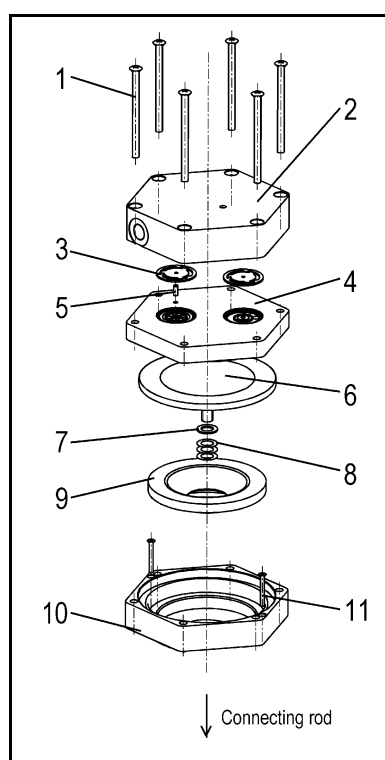

Fig. 5: Pump head
1. For two-headed pumps: On the pneumatic head connection (3), loosen the union nuts (2) by hand. Then slightly loosen the angle-fitting (1) in the pump head (4) by turning it counter-clockwise, so that the connecting tube can be pulled out.
2. Mark the position of head plate (fig. 5/2), intermediate plate (fig. 5/4) and adapter (fig. 5/10) relatively to each other by a drawing line (for two-headed pumps: at both pump heads) with a felt-tip pen. This helps to avoid incorrect assembly later.
3. Loosen the outer screws (5) on the pump head/pump heads.
2. Carefully unscrew the upper diaphragm (fig. 5/6) counter-clockwise using both hands.
3. Shift spacer thick (7) and spacers thin (8) from the old diaphragm onto the screw thread of the new diaphragm (same number and order).
Replaced diaphragms and valve plates/sealings	➔ Check that the spacers have been replaced onto the diaphragm screw thread. ➔ Check head connection and hose connections for leaks. ➔ Possibly carefully tighten the outer screws (fig. 5/1) of the top plate crosswise.